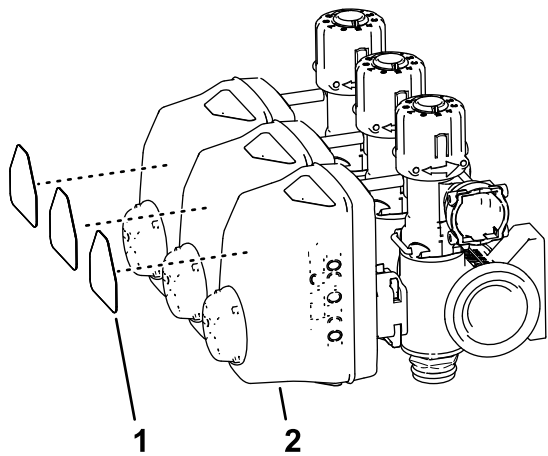

Figure 70
- Remove the decals from the actuators of the 3 section valves (Figure 70).